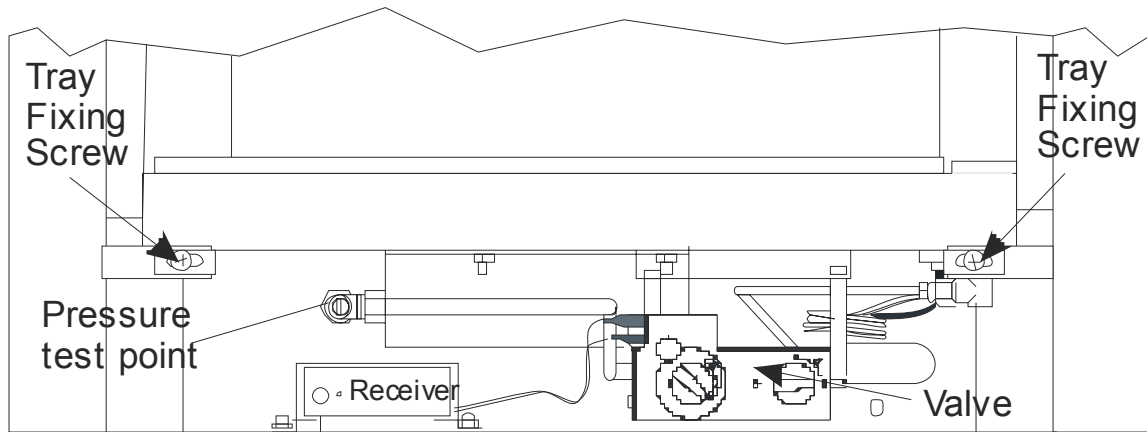
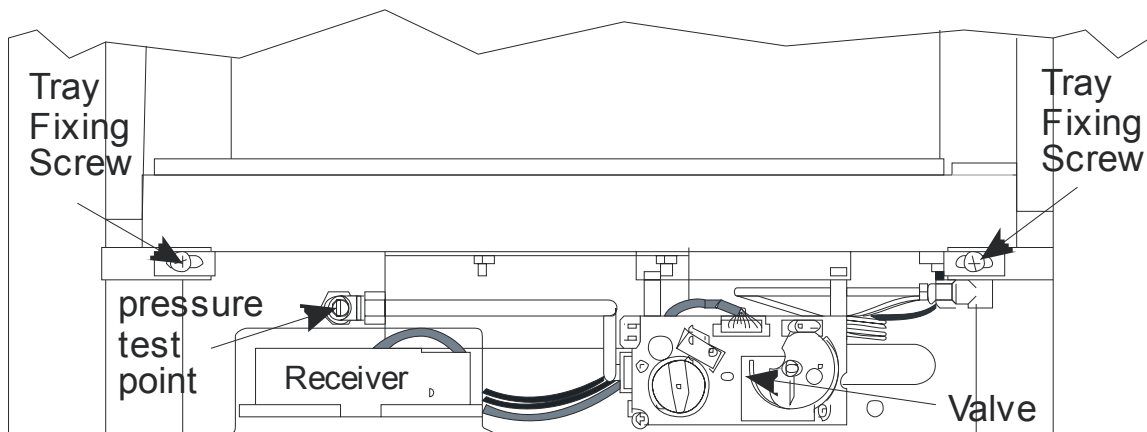

Figure 42 - Model with Mertik GV34 Valve
Figure 43 – Model with Mertik GV60 Valve (Total Control)
1. Remove the two burner fixing screws located under the front corners of the tray (see **Figure 42** and **Figure 43** on page 23).